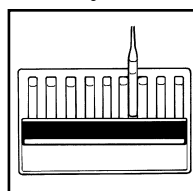

Figure 4
8. Obtain a test result by placing the ampoule between the color standards until the best color match is found. Fig. 4